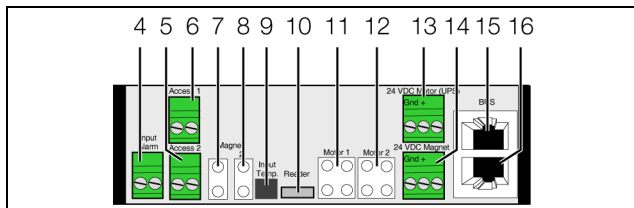

Fig. 9: Rear of the door control module
- Depending on the door type, connect the relevant magnet door kit to the front door (fig. 9, item 7) and the rear door (fig. 9, item 8).
- Connect a power supply unit to the power supply connection of the magnet door kit (DK 7030.060) (fig. 9, item 14). Use the same voltage supply for this power supply unit as for the components you wish to protect (e.g. server).
- Connect the external temperature sensor to the door control module connection at the rear (fig. 9, item 9) and route the measuring sensor to the required measuring point.
- Connect the door kit extension to the front door (fig. 9, item 11) and the rear door (fig. 9, item 12).
- Connect a further power supply unit to the power supply connection of the door kit extension (DK 7030.060) (fig. 9, item 14).
- If applicable, connect e.g. the signal output of a fire alarm system or building control system to the alarm input (fig. 9, item 4).
- If applicable, connect a door switch or door comfort handle with opener function for manual opening of the front door (fig. 9, item 6) and rear door (fig. 9, item 5).
- If applicable, as an alternative to a door switch or door comfort handle with opener function for access control, connect a suitable CMC III reader unit (coded lock or transponder reader) for manual opening of the doors (fig. 9, item 10).
- Using a CAN bus connection cable, connect the door control module to a CAN bus interface of the CMC III Processing Unit or the neighbouring component in the CAN bus (fig. 9, item 15).